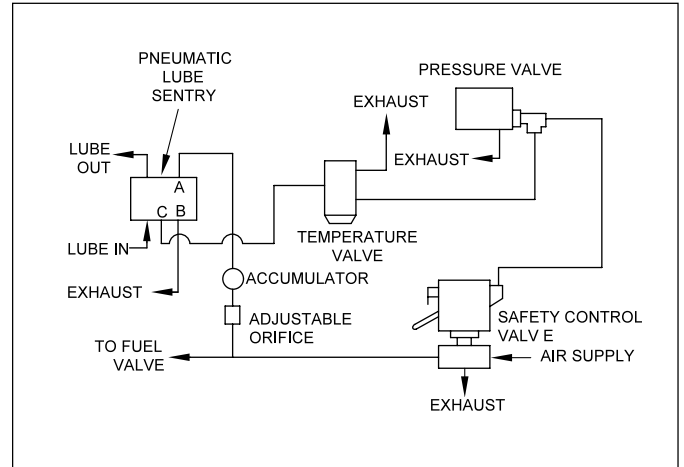

Figure 3. Typical Series Installation of Pneumatic Engine Shutdown Circuit
A. Series Type (in-line) Safety Control Pneumatic Circuits (See Figure 3)
4. To test device for operation, start engine to initiate flow in the divider valve system. Operation of the air valve within the Lube Sentry will be observed as the tripping out of the reset latch (manual override) lever on the safety control valve (see Figure 3), and the continued operation of the engine. After a short interval of running during which the engine and compressor receive sufficient lubrication and all other safety devices move to the RUN position, dump the output of the pumps serving the divider valve systems by removing the pump blowout disc or a pipe plug from the pump manifold assembly. When the flow to the distribution system stops, the Lube Sentry should operate to dump the pressure in the pneumatic safety circuit, dropping out the safety control valve to stop the engine. (If shutdown action is sluggish, reduce the setting of the adjustable orifice through which air for the safety circuit passes.